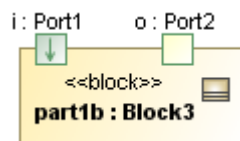

Figure 64 -- Example of Ports Displayed
4. The selected ports will then be displayed on the part symbol (Figure 64).